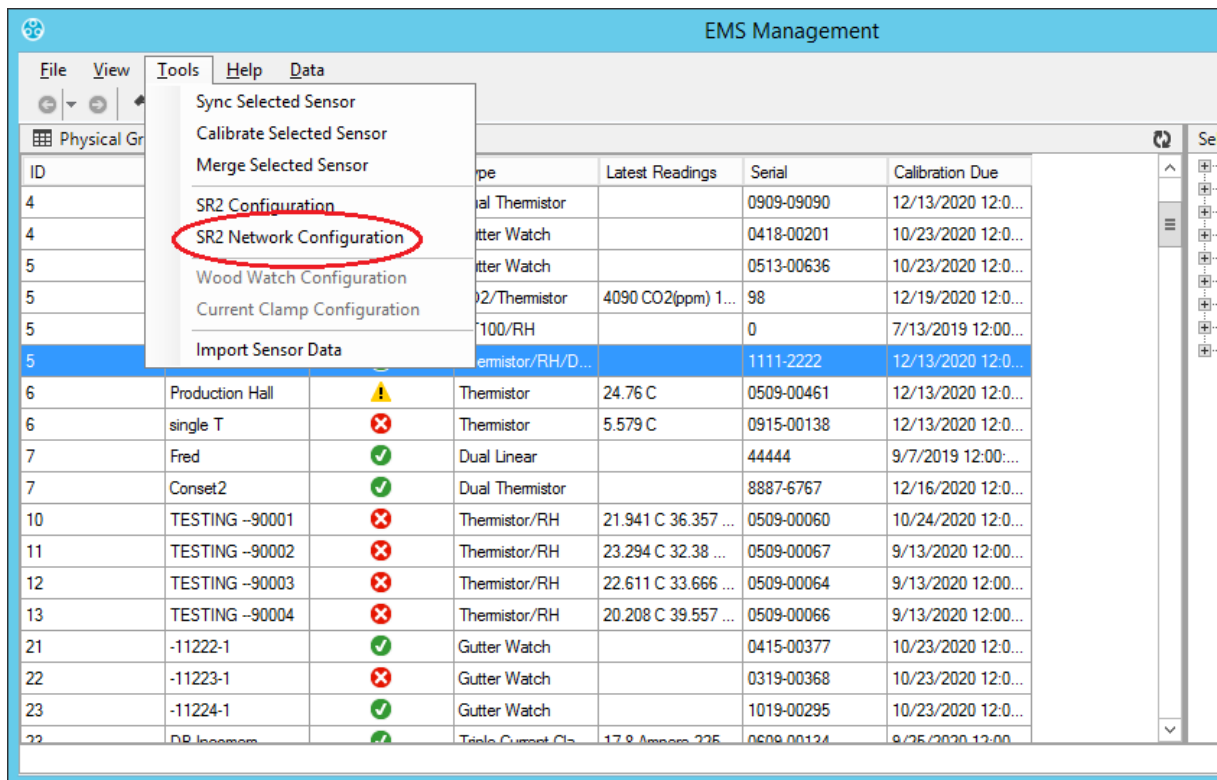

Figure 8
- iii. Click on **SR2 Network Configuration** in the displayed drop-down menu. See Figure 8 below: